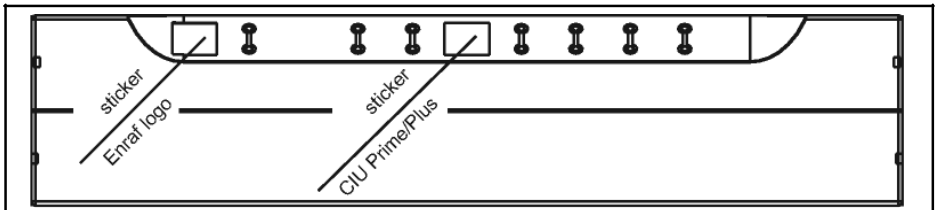

Figure 5.3 Stickers at front of CIU
Place the identification stickers on front of the CIU as indicated in figure 5.3.
- 5) Place the identification stickers on front of the CIU as indicated in figure 5.3.